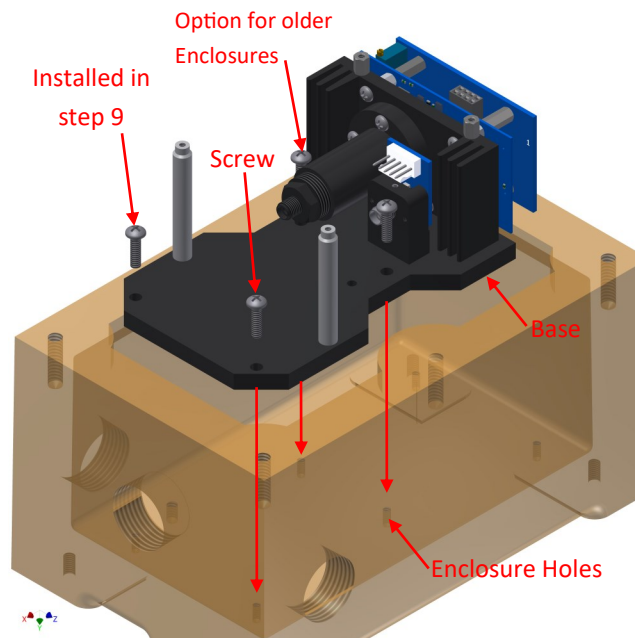

Figure 1.3.5
5. Insert the mounting base with its installed items into the Enclosure. Align the base with the four holes inside the enclosure and secure it using three (3) 6-32 x 1/2" Pan Phillips Head Screws with a small amount of thread lock. See figure 1.3.5.